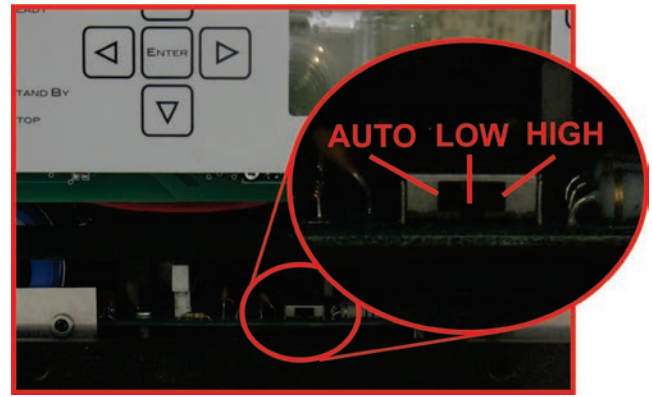

Figure 4.5 – Bi-Level Power Switch Location
4. Locate the Bi-level Power Supply Switch as shown in **Figure 4.5**.